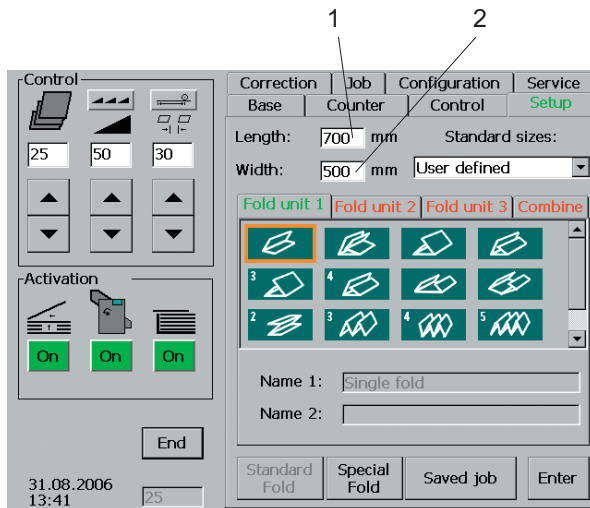

Fig. 16 SETUP menu
1. Touch the input windows for „*Length*“ (Fig. 16/1).
2. Touch the input windows for „*Width*“ (Fig. 16/2).